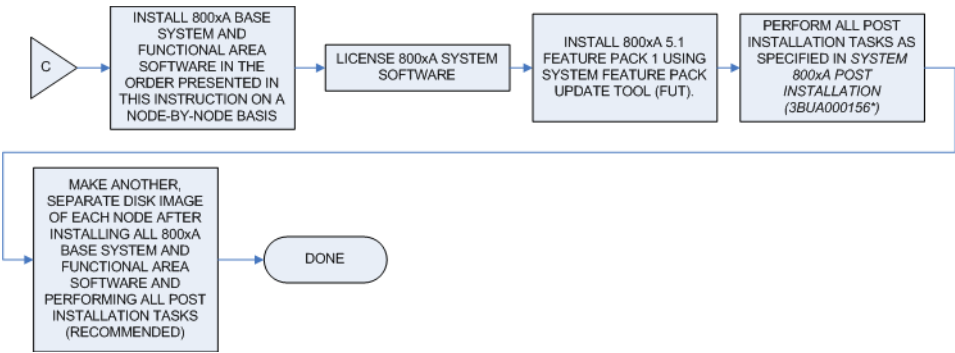

Figure 5. Install 800xA 5.1 Feature Pack using System Feature Pack Update Tool (FUT)
- 800xA Base System, Functional Area, and Feature Pack software installation and post installation (Figure 5).